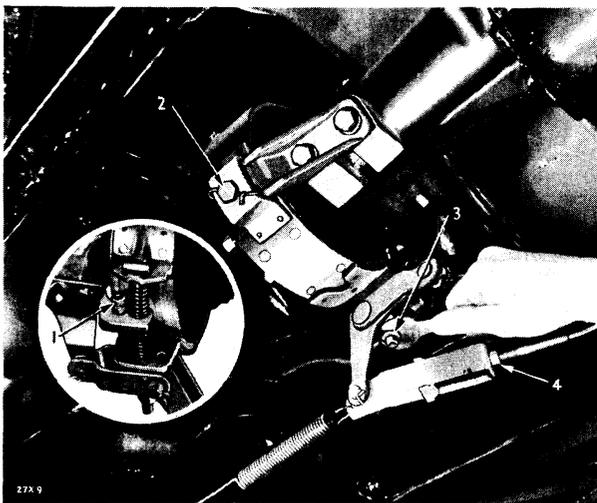

Fig. 24—Hand Brake Band Adjustments
- (1) Remove adjusting bolt and nut. Remove guide bolt adjusting nut, lock nut and guide bolt (3 and 1, Fig. 24).
- (2) Remove anchor adjusting screw. Pull band assembly away from transmission and off propeller shaft.
- (2) Remove lock wire. Using feeler gauge, adjust anchor screw (2, Fig. 24) so that clearance between band and drum at anchor is .015 to .020 inch. Lock anchor screw securely.
- (3) Adjustment of the guide bolt (1, Fig. 24) should be such that both upper and lower
half of band has a like amount of clearance. The guide bolt moves the lower half of band up to keep the upper half of the band from dragging and causing premature wear. Adjusting bolt nut (3, Fig. 24) controls the upper half of the band.
- (4) Turn adjusting bolt nut (3, Fig. 24), until there is just a slight drag on the drum, with upper and lower half having an equal amount of clearance.
Sometimes, after long service, the cable will stretch to such an extent that pulling back on the hand brake lever will not apply band to drum. Loosen lock nut (4, Fig. 24), remove clevis pin from yoke and turn yoke until cable slack is taken up. Make certain that lock nut is tightened after assembly. (This is not a substitute for hand brake adjustment.)